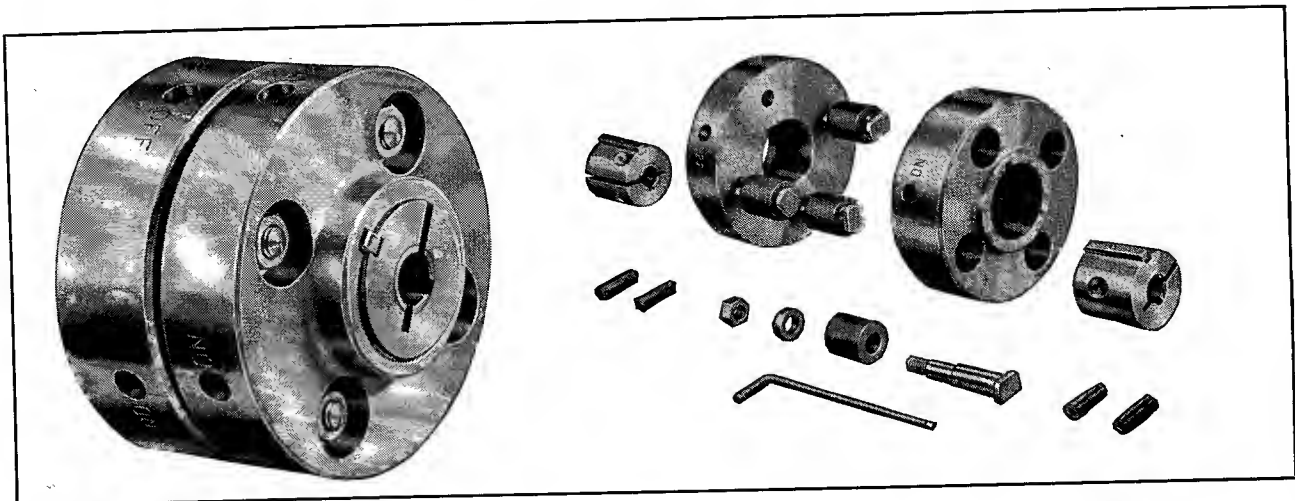

Fig. 5 — Assembled Magic-Grip coupling shown on left. Note the recesses in the bushing for the set screws in the exploded view on the right.
5. Magic-Grip Couplings (Fig. 5)